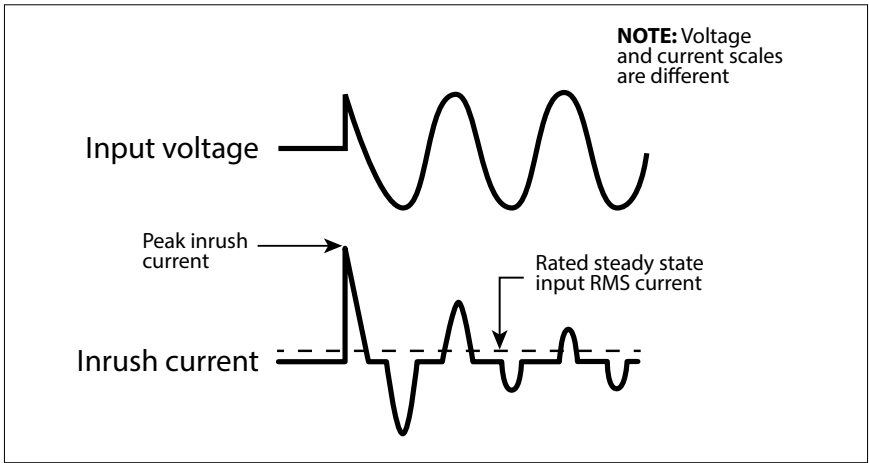

Fig 4.1: Inrush current in an SMPS
- **AC to DC Switched Mode Power Supplies (SMPS):** This type of power supply is used as stand-alone power supply or as front end in all electronic devices powered from Utility / Grid e.g. in audio/video/ computing devices and battery chargers (Please see Section 4 for more details on SMPS). When this power supply is switched ON, its internal input side capacitors start charging resulting in very high surge of Inrush Current for a few milliseconds (Please see Fig 4.1). This surge of inrush current / power may reach up to 15 times the Continuous Maximum Running Power Rating. The surge of inrush current / power will, however, be limited by the Surge Power Rating of the AC source.
Switch Mode Power Supplies (SMPS) are extensively used to convert the incoming AC power into various voltages like 3.3V, 5V, 12V, 24V etc. that are used to power various devices and circuits used in electronic equipment like battery chargers, computers, audio and video devices, radios etc. SMPS use large capacitors in their input section for filtration. When the power supply is first turned on, there is a very large inrush current drawn by the power supply as the input capacitors are charged (The capacitors act almost like a short circuit at the instant the power is turned on). The inrush current at turn-on is several to tens of times larger than the rated RMS input current and lasts for a few milliseconds. An example of the input voltage versus input current waveforms is given in Fig. 4.1. It will be seen that the initial input current pulse just after turn-on is > 15 times larger than the steady state RMS current. The inrush dissipates in around 2 or 3 cycles i.e. in around 33 to 50 milliseconds for 60 Hz sine wave.